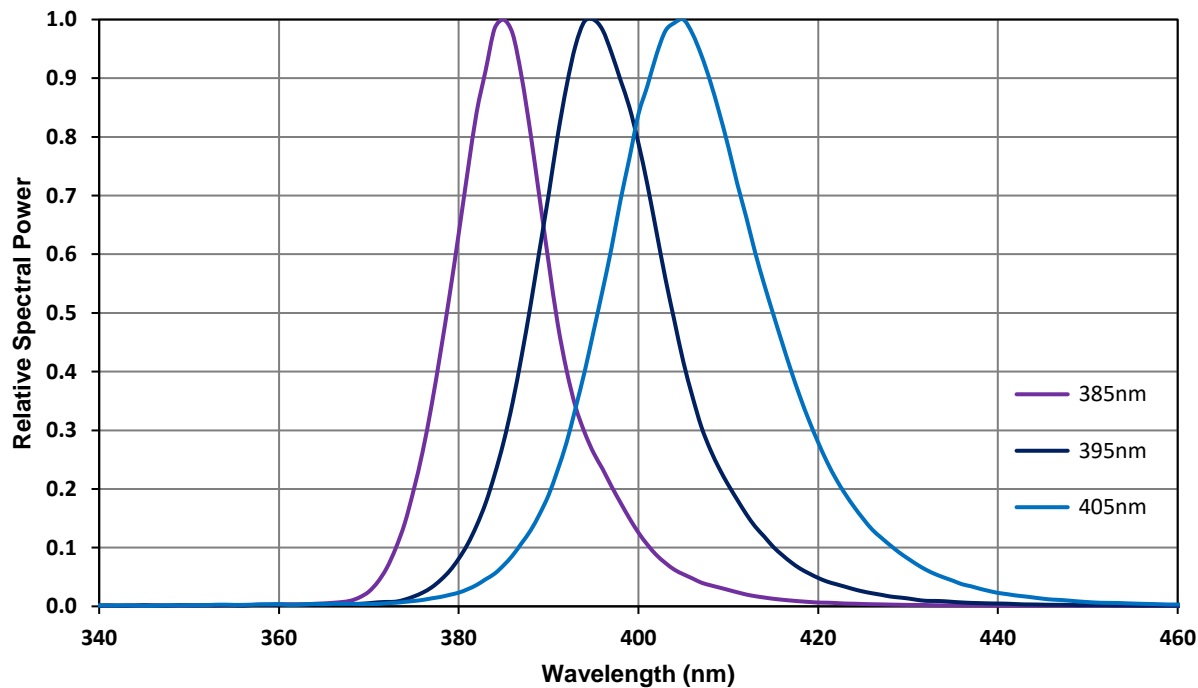

Figure 5: Typical relative spectral power vs. wavelength @  $T_C = 25^{\circ}\text{C}$ .
- Solder conditions per JEDEC 020D. See *Reflow Soldering Profile* Figure 5.